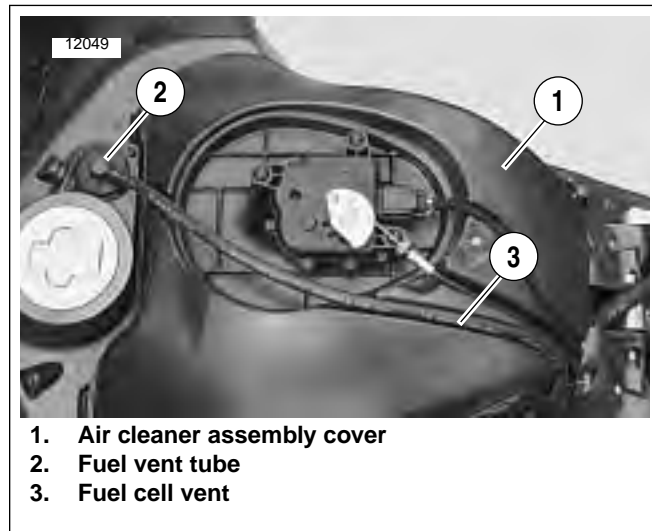

Figure 7-23. Air Cleaner Cover, Fuel Vent Tube and Fuel Vapor Valve (XB12 solid color models)
6. See Figure 7-23. Remove fuel vent tube (3) from fuel cell vent and groove on top of air cleaner cover (2).
7. Disconnect harness connector [161B] from actuator (5).
8. Add freeplay to interactive exhaust cable (6), loosen jam nut and remove cable from bracket on actuator (5).